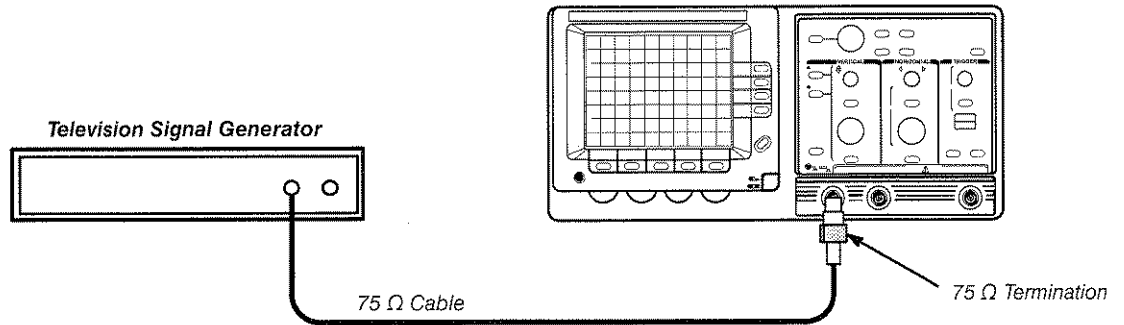

Figure 6-16: Video Trigger Test Setup
**Equipment Required:** One NTSC Television signal generator (item 13), one 75  $\Omega$  termination (item 4), and one 75  $\Omega$  coaxial cable (item 6).
2. Connect the composite sync output of the television signal generator to the **CH 1** input as shown in Figure 6-16.